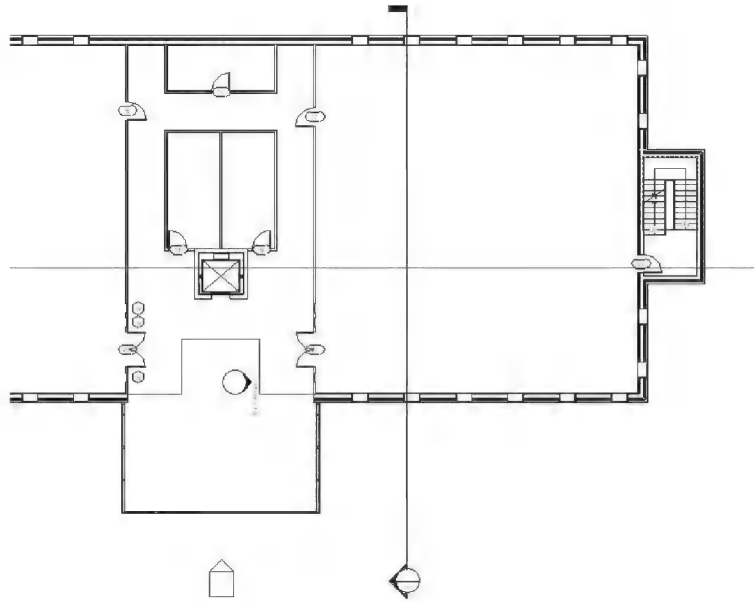

FIGURE 10-2.2 Level 2 view
5. Switch to the **Level 2** view (Figure 10-2.2).